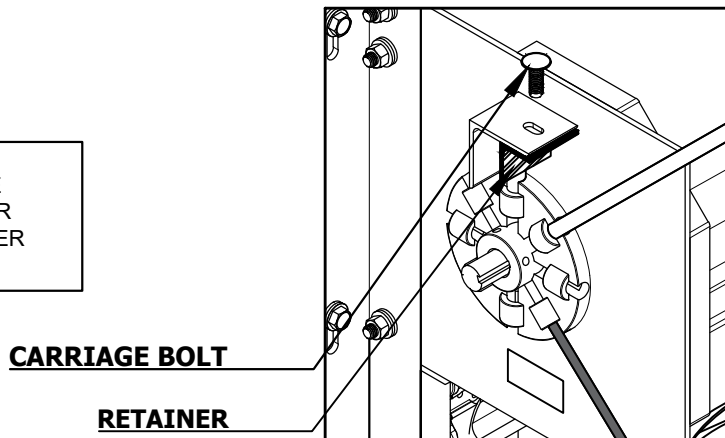

FIGURE 19
- e. Insert tension wheel pin and retainer as shown in Figure 19.